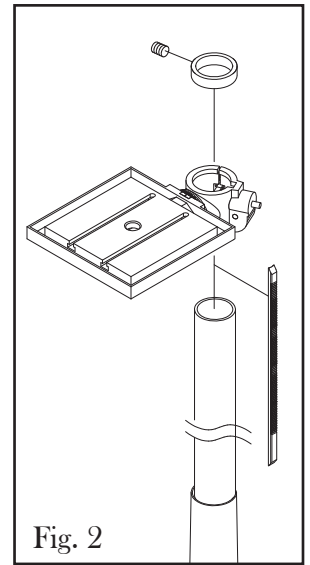

Fig. 2
2. Loosen the set screw and remove the column collar and gear rack from the column. With the help of a friend, place the rack inside the table bracket before sliding the table assembly with the rack down onto the column (Fig. 2). Place the column collar down over the rack after positioning the rack and the table in place. Tighten the collar's set screw with a hex wrench to hold the rack into position.